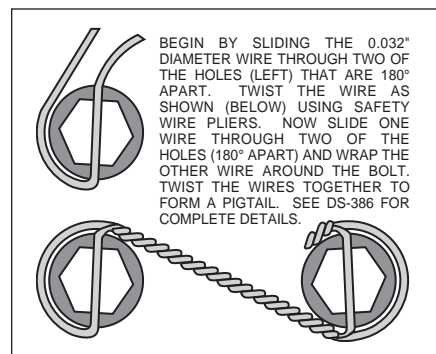

Figure 3. Safety Wire Diagram
- With the larger I.D. side of the rotor (5) facing away from the hat (6), bolt rotor (5) to hat (6) through the backside of the rotor using washers (7) and bolts (8). Using an alternating sequence, apply red *Loctite*® 271 to the threads and torque bolts to 155 **in-lb**. For an added measure of security, the bolts may be safety wired using standard 0.032 inch diameter stainless steel safety wire as shown in Figure 3. Please refer to Wilwood's data sheet DS-386 (available at www.wilwood.com/Pdf/DataSheets/ds386.pdf) for complete safety wire installation instructions.